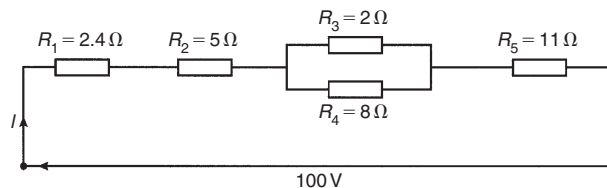

Figure RT2.1
- Resistances of 5Ω , 7Ω and 8Ω are connected in series. If a 10 V supply voltage is connected across the arrangement determine the current flowing through and the p.d. across the 7Ω resistor. Calculate also the power dissipated in the 8Ω resistor. (6)
- For the series-parallel network shown in Fig. RT2.1, find (a) the supply current, (b) the current flowing through each resistor, (c) the p.d. across each resistor, (d) the total power dissipated in the circuit, (e) the cost of energy if the circuit is connected for 80 hours. Assume electrical energy costs 14p per unit. (15)
- The charge on the plates of a capacitor is 8 mC when the potential between them is 4 kV . Determine the capacitance of the capacitor. (2)
- Two parallel rectangular plates measuring 80 mm by 120 mm are separated by 4 mm of mica and carry an electric charge of 0.48 C . The voltage between the plates is 500 V . Calculate (a) the electric flux density (b) the electric field strength and (c) the capacitance of the capacitor, in picofarads, if the relative permittivity of mica is 5. (7)
- A 4 F capacitor is connected in parallel with a 6 F capacitor. This arrangement is then connected in series with a 10 F capacitor. A supply p.d. of 250 V is connected across the circuit. Find (a) the equivalent capacitance of the circuit, (b) the voltage across the 10 F capacitor and (c) the charge on each capacitor. (7)